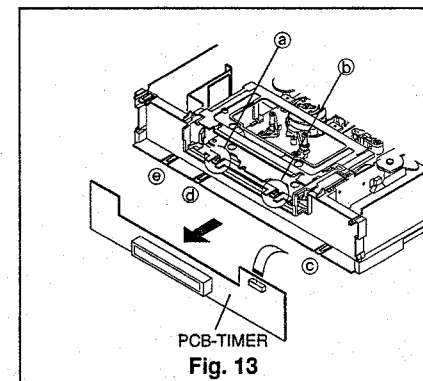

Fig. 13
- ③ Remove five catches (a~e), shown in Fig. 13, then remove the PCB-TIMER.